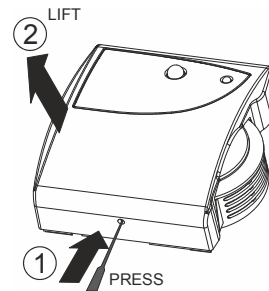

Fig. 2. Removing the cover
1. Remove the cover (see Fig. 2).
The wall module features a configuration potentiometer (accessible only after removing the top cover and, in the case of the CLCM4C155A, also the setpoint wheel – see Fig. 2) which can be used to configure the output of terminal 2 (CO₂ level) and (when in the "Relay Output" mode) the "Threshold Level (ppm)".